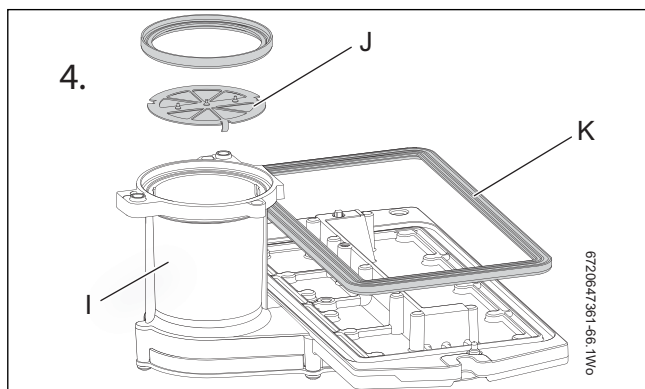

Fig. 82 Diaphragm
- Remove the burner (H).
- Ensure that a new seal (K) is used, refer to fig. 82.